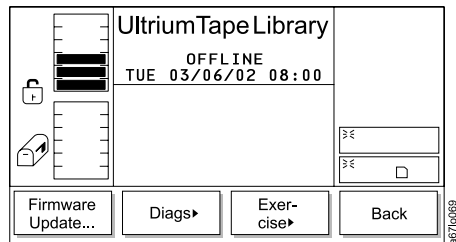

Figure 298. Library Submenu
3. Press the button below the **Library** softkey. The Library Submenu displays (see Figure 298).